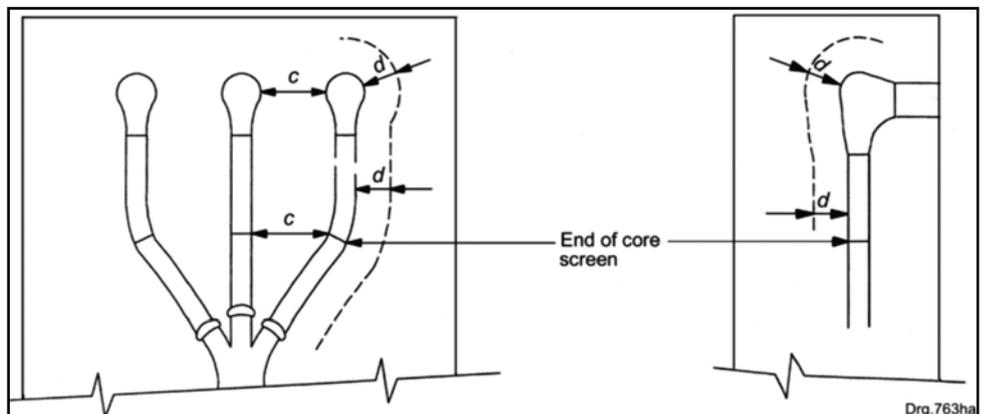

Figure 5: Shrouded termination (type 2)
- Type 2 termination - lugs connected onto bushings or post insulators with a shrouded (unscreened) insulation termination, figure 5.